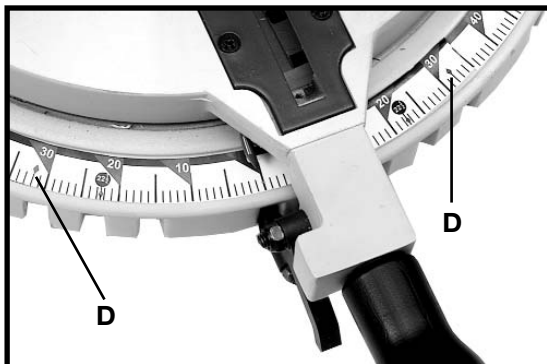

Fig. 13
In addition, a triangle indicator (D) Fig. 13 is provided on the miter scale at the 31.6 degrees right and left miter positions for cutting crown moulding. (Refer to the “**CUTTING CROWN MOULDING**” section of this manual).